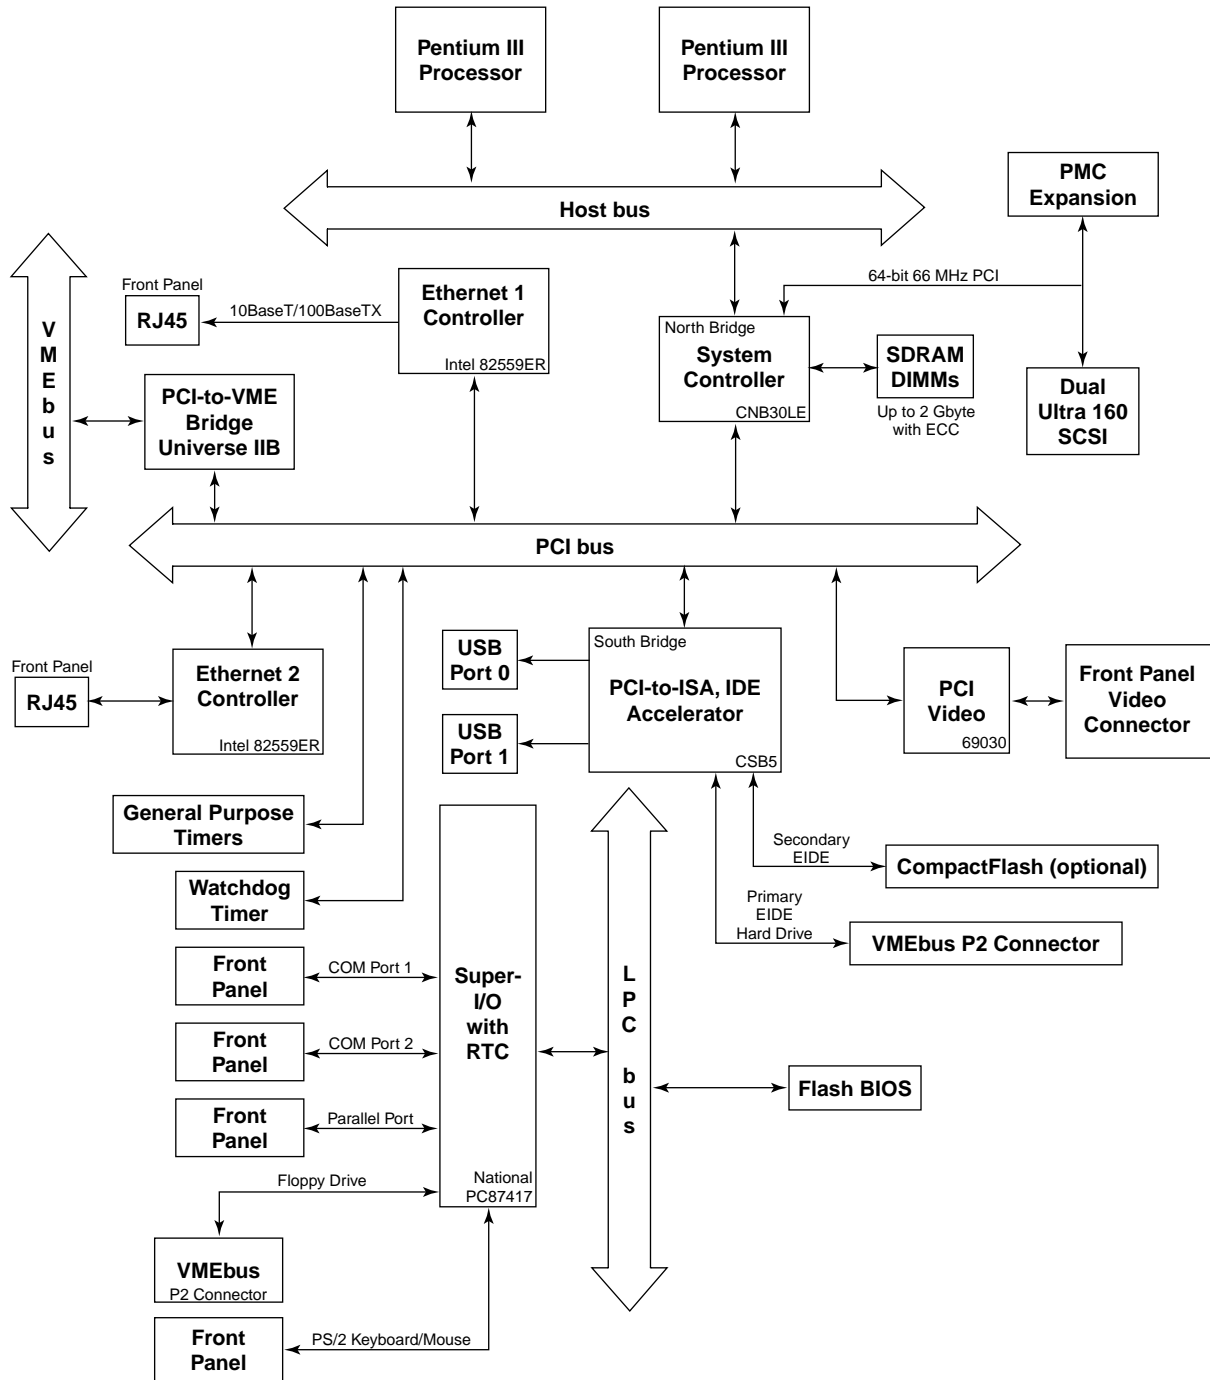

Figure 1 VMIVME-7765 Block Diagram
- Figure 1 VMIVME-7765 Block Diagram 20